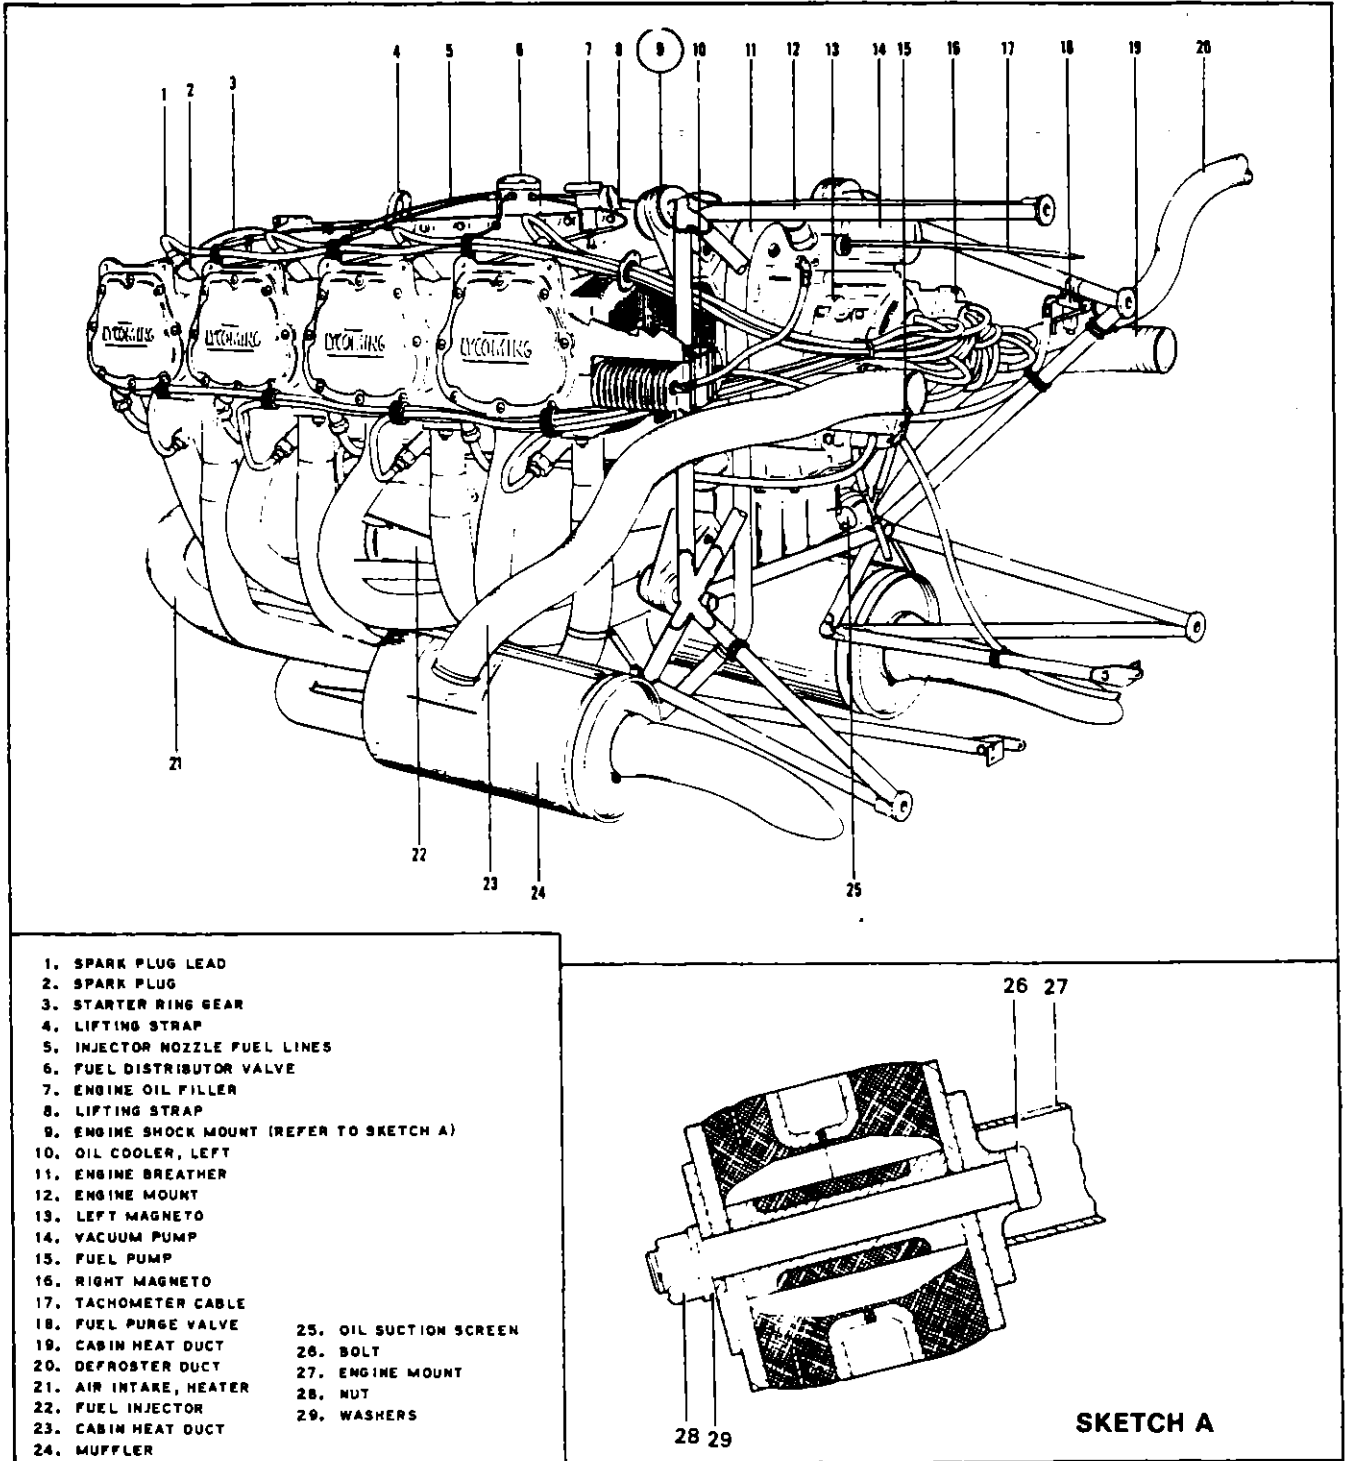

Figure 7B-4. Engine Installation (PA-24-400)
**7B-15. Adjustment Of Propeller Governor. (Refer to Figure 7B-3.)**